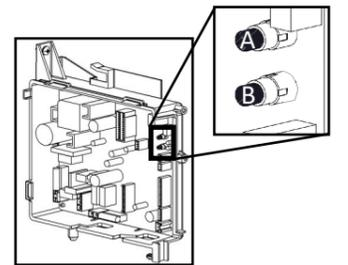

Figure 6: A and B Push Buttons
- Locate the two push buttons (A and B) on the PC Board (Figure 6).